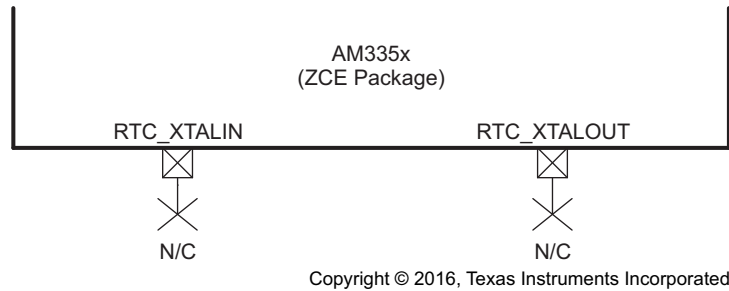
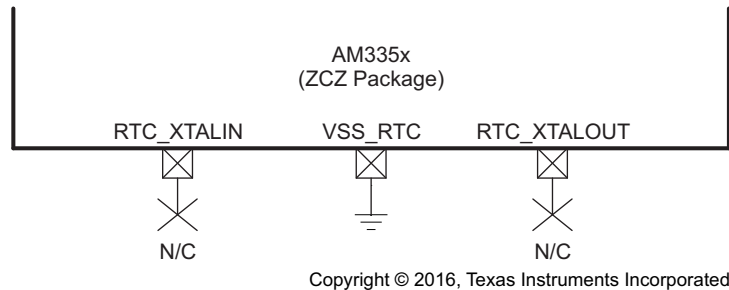

**Figure 6-17. OSC1 (ZCE Package) Not Used Schematic**
**Figure 6-18. OSC1 (ZCZ Package) Not Used Schematic**
Figure 6-17 shows the recommended oscillator connections when OSC1 of the ZCE package is not used and Figure 6-18 shows the recommended oscillator connections when OSC1 of the ZCZ package is not used. An internal 10-k $\Omega$  pullup on the RTC\_XTALIN terminal is turned on when OSC1 is disabled to prevent this input from floating to an invalid logic level which may increase leakage current through the oscillator input buffer. OSC1 is disabled by default after power is applied. Therefore, both RTC\_XTALIN and RTC\_XTALOUT terminals should be a no connect (NC) when OSC1 is not used.